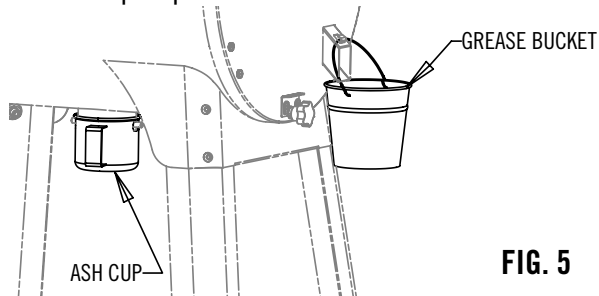

FIG. 5
1. Install hopper handle as shown in Fig. 5.
1. Hang grease bucket from tube as shown in Fig 5.